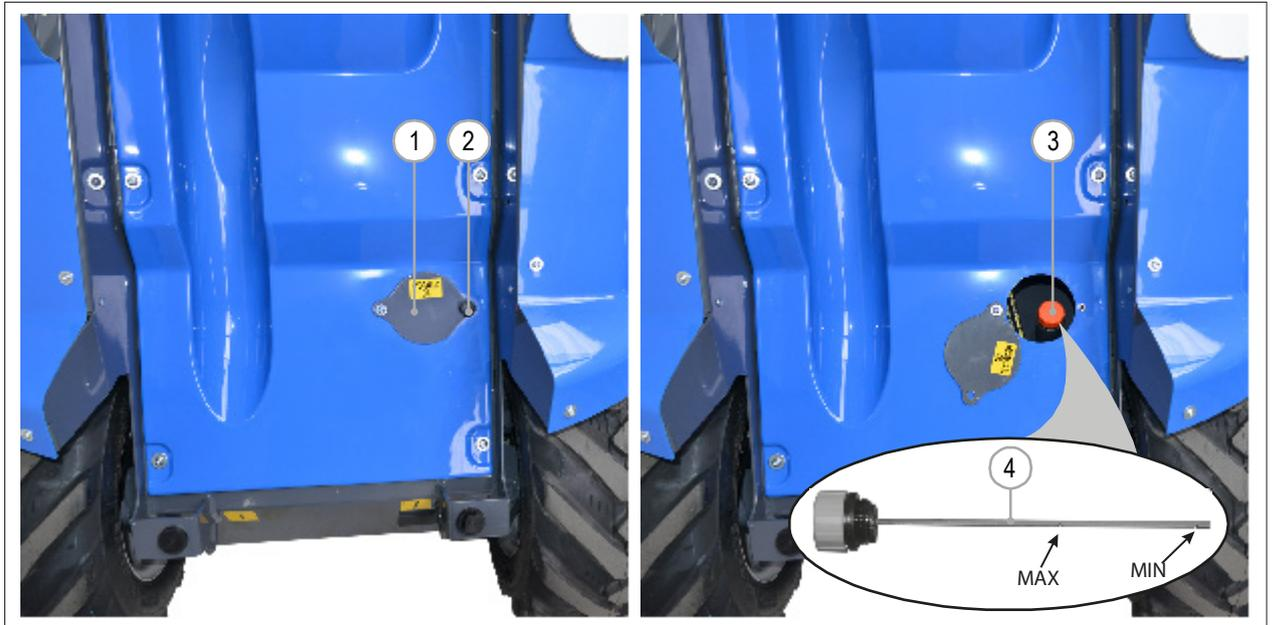

FIG. 45
- 3) Unscrew the knob (FIG. 45 - Ref. 2) to open the cover (FIG. 45 - Ref. 1) located near the left front wheel.
- 4) Remove the cap of the hydraulic oil tank (FIG. 45 - Ref. 3).
- 5) Check that the oil level is between the MIN and MAX marks on the dipstick (FIG. 45 - Ref. 4).